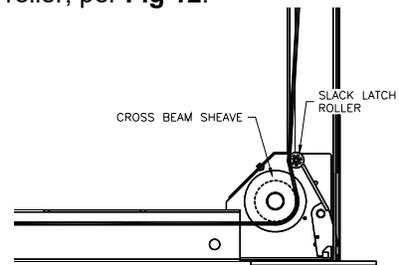

Fig 12 – Slack Cable Routing
18) Reinstall the crossbeam sheaves with one plastic bearing washer and spacer on each side of each sheave. Make sure the cables are routed correctly around the slack cable latch roller, per **Fig 12**.